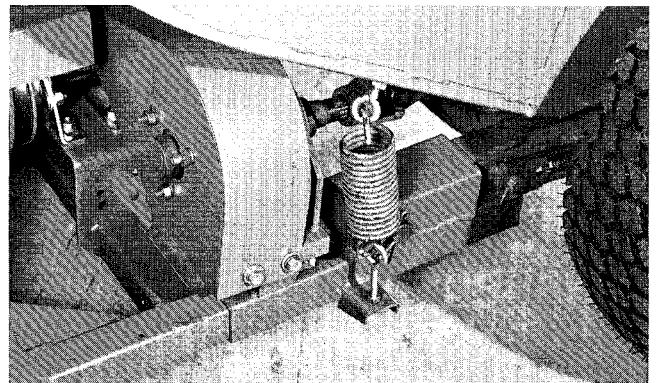

Figure 10
6. Raise snowthrower and hook floatation springs to eyebolts. Tighten eyebolts so springs are extended approximately 1 inch when snowblower is in the maximum raised position (Fig. 10).